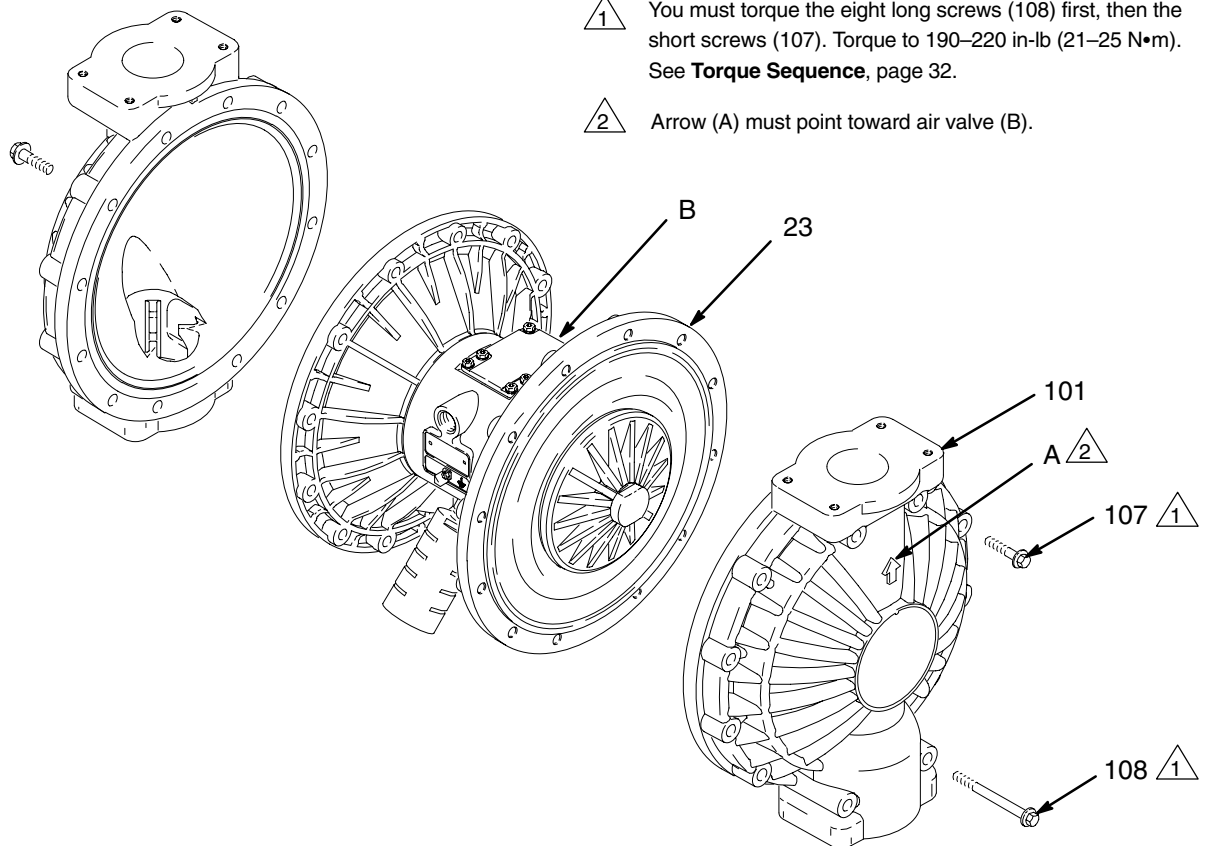

Fig. 12
3. Using 13 mm socket wrenches, remove the screws (107 and 108) holding the fluid covers (101) to the air covers (23). Pull the fluid covers (101) off the pump. See Fig. 12.
4. Apply medium-strength (blue) Loctite® or equivalent to the threads of the fluid-side plates (105). Hold one of the outer plates (105) with a wrench, and torque the other outer plate to 20 to 25 ft-lb (27 to 34 N•m) at 100 rpm maximum. **Do not over-torque.**
5. Align the fluid covers (101) and the center housing (1) so the arrows (A) on the covers face the same direction as the air valve (B). Secure the covers with the screws (107 and 108), handtight. Install the longer screws (108) in the top and bottom holes of the covers. See Fig. 12.
6. First, torque the longer screws (108) oppositely and evenly to 190–220 in-lb (21–25 N•m), using a 13 mm socket wrench. Then torque the shorter screws (107). See **Torque Sequence**, page 32.